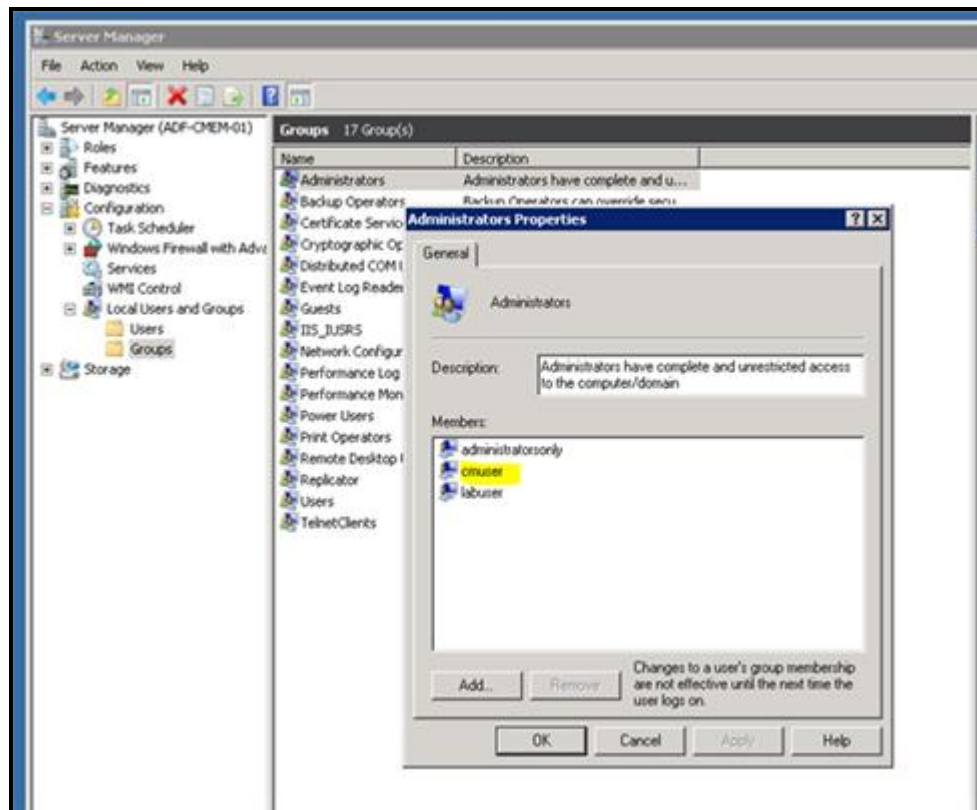

Figure 2: Adding the created local user to the Administrators group
- Clicking the **Administrators** group will invoke the **Administrators Properties** pop up window (see Figure 2)
- The user that you have created will be listed in the **Members** section as shown in Figure 2.